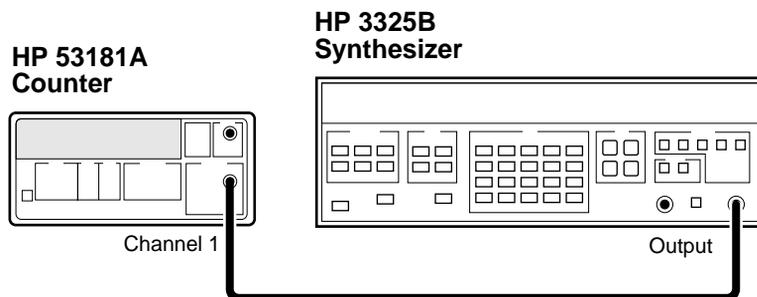

Figure 1-11. Trigger Level Test Setup
- 1 **Connect the output of the HP 3325B to Channel 1 of the Counter as shown in Figure 1-11.**